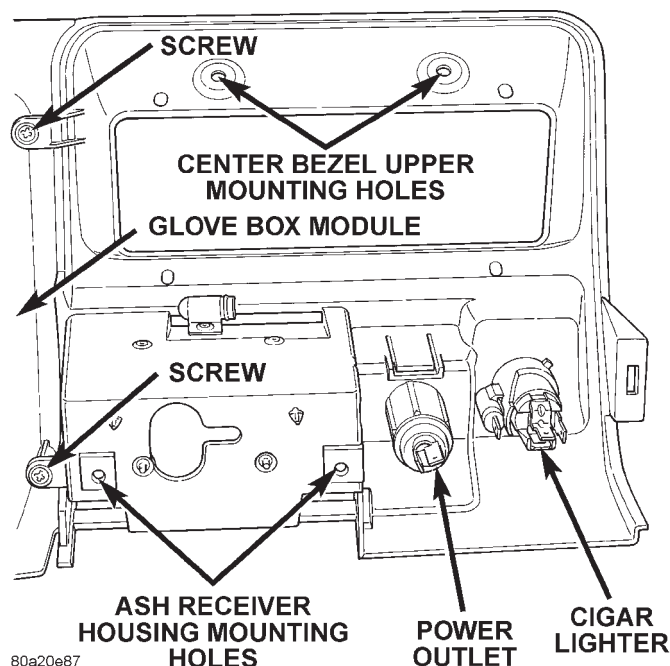

Fig. 16 Instrument Panel Center Bezel Remove/Install
- (1) Remove the glove box module as described in this group.
- (2) Remove the two screws that secure the instrument panel center bezel to the inboard end of the glove box module from the back side of the glove box module (Fig. 16).
- (3) Reverse the removal procedures to install.